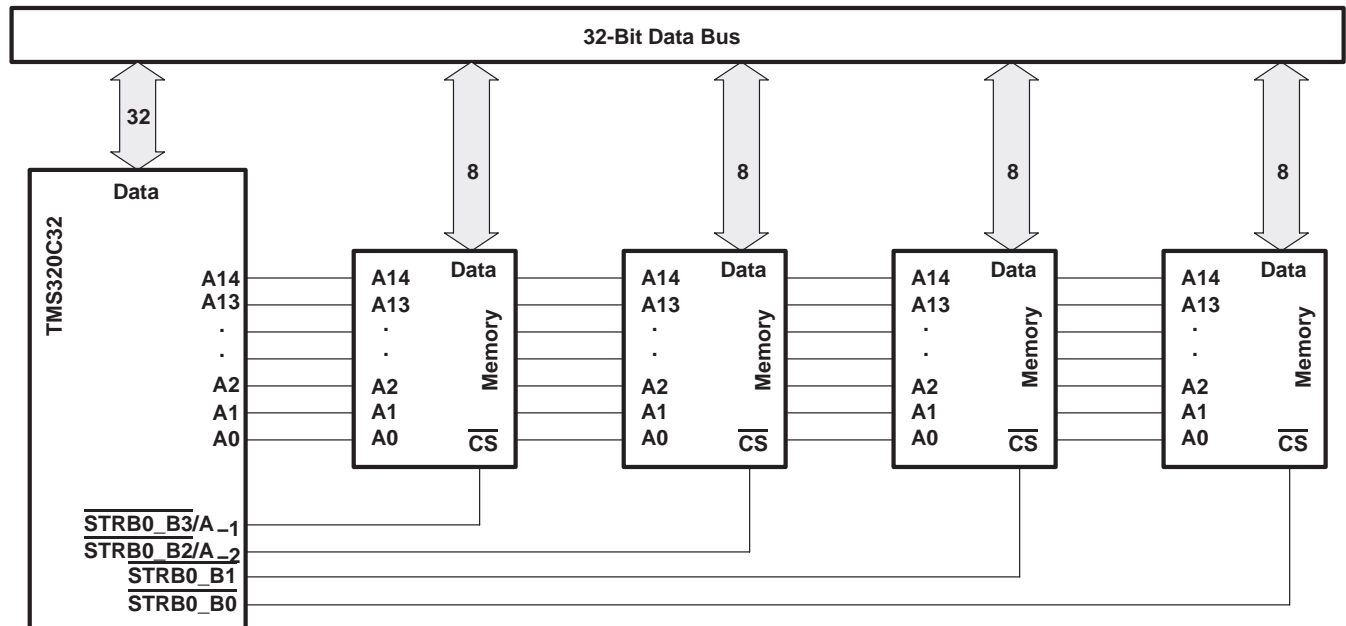

Figure 4. C32 With 32-Bit-Wide External Memory
- For 32-bit-wide physical memory, all $\overline{\text{STRB0}}$ and $\overline{\text{STRB1}}$ pins function as byte-enable (chip-select) pins. See Figure 4.